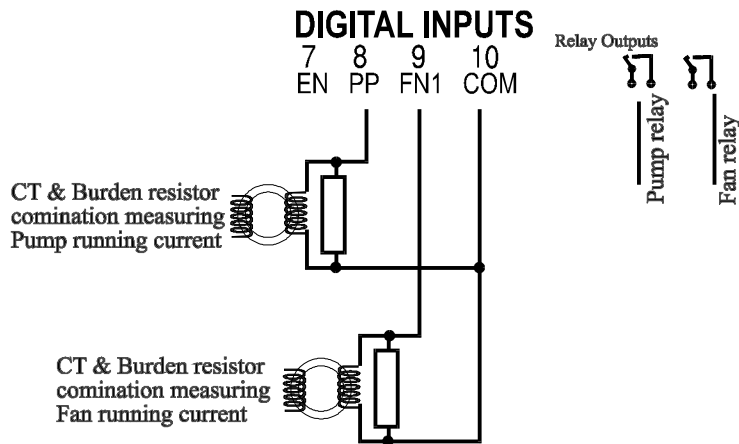

Figure 9.1.3A
- 9.1.3.1 The wiring arrangements for various Fan & Pump CT Type Inputs are shown in Figures 9.1.3A & 9.1.3B below.
- 9.1.3.2 Figure 9.1.3A shows the 852 wiring arrangement for CT type input where the transformer is fitted with both Fan and Pump. With this arrangement when commissioning and verifying the 'load' CT input it is important to ensure that the correct digital inputs are made as these determine the appropriate cooling gradient. For instance if a full 5A (OFAF) input is applied and the digital inputs are left in the Natural cooling state the 852 will remain on the ONAN gradient resulting in a much higher temperature than expected.